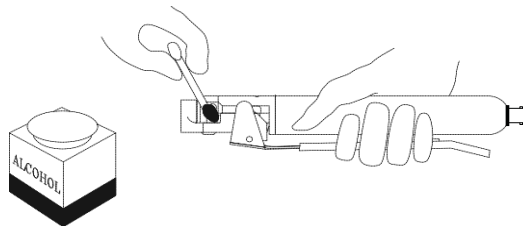
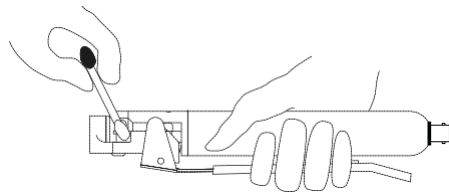

Figure 4-5, Cleaning Ground and RF Jaw Surfaces
Figure 4-6, Drying Ground and RF Jaw Surfaces
5. Clean all areas adjacent to the sealing region using an alcohol moistened cotton swab, giving special attention to grooves and other recesses where fluids or other contaminants may become trapped. Be sure to dry immediately with the dry end of the cotton swab. Cleaning can be facilitated by squeezing the lever to expose contaminated areas along the sides of the ground jaw and RF jaw. See Figure 4-5, Cleaning Ground and RF Jaw Surfaces and Figure 4-6, Drying Ground and RF Jaw Surfaces. *Be sure the RF power cable is disconnected from the Sealing Head!*